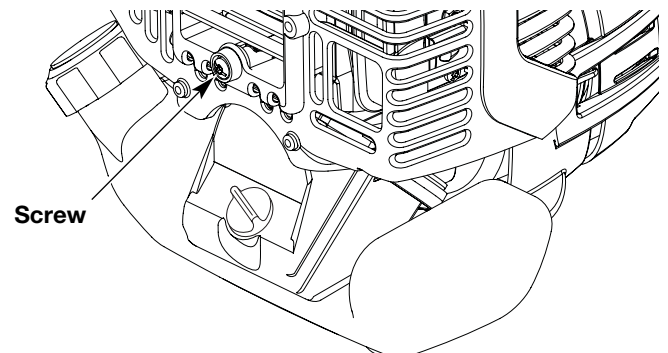

Fig. 36
2. Remove the screw behind the engine cover with a Flat-head or T-25 Torx screwdriver (Fig. 36).